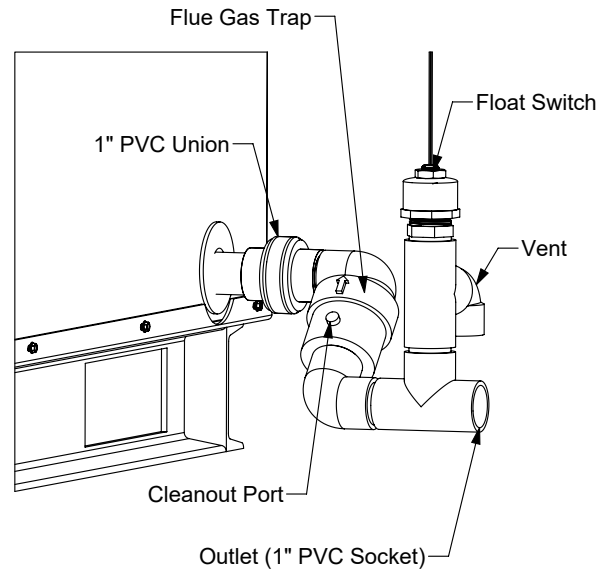
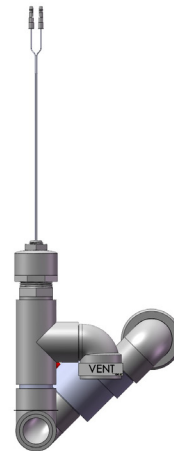

Figure 6: Condensate Drain Trap
Figure 5: Condensate Assembly Orientation
- a. Mount as shown in Figure 6 and Figure 5 (*Outlet of the vent is to be level*).